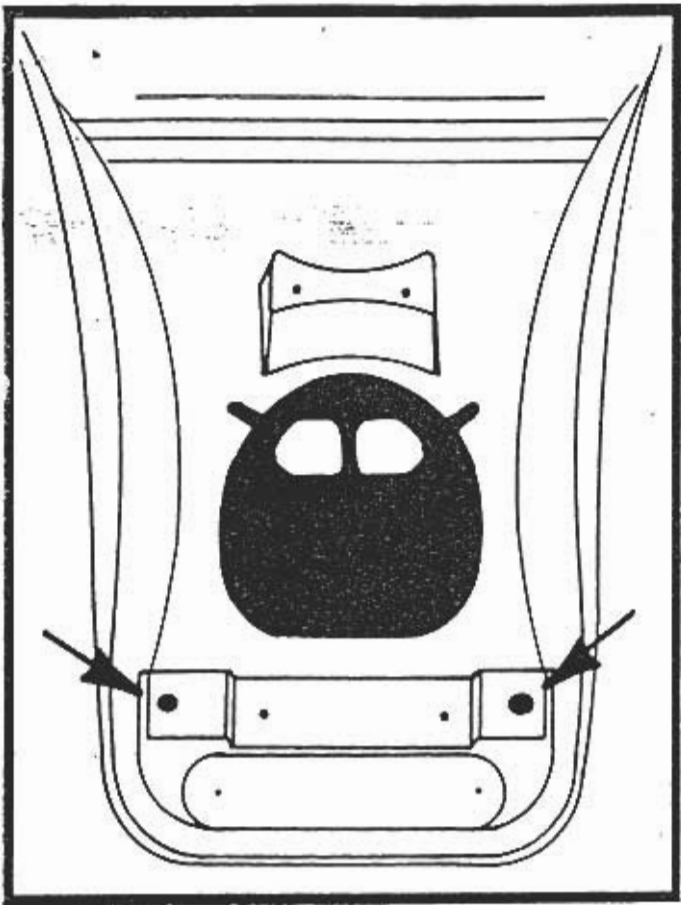

FIGURE 10
- C. Install O.E.M. mini-trip computer bezel from the backside of opening in console. Install computer mounting bracket (item 5 pg 2) and secure using (2) two # 6 x 1/2" screws (item 1 pg 2). See figure 10.